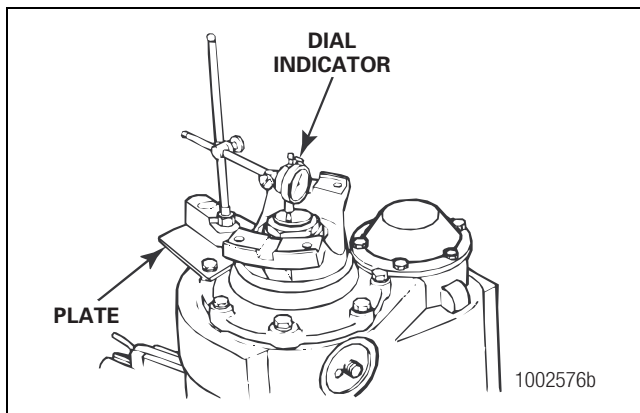

Figure 5.85
- B. Use a dial indicator with a magnetic base or a C-clamp base to inspect the end play of the input bearing. Verify that the pointer of the dial indicator is against the top of the input shaft. Set the dial indicator to ZERO. Figure 5.85.